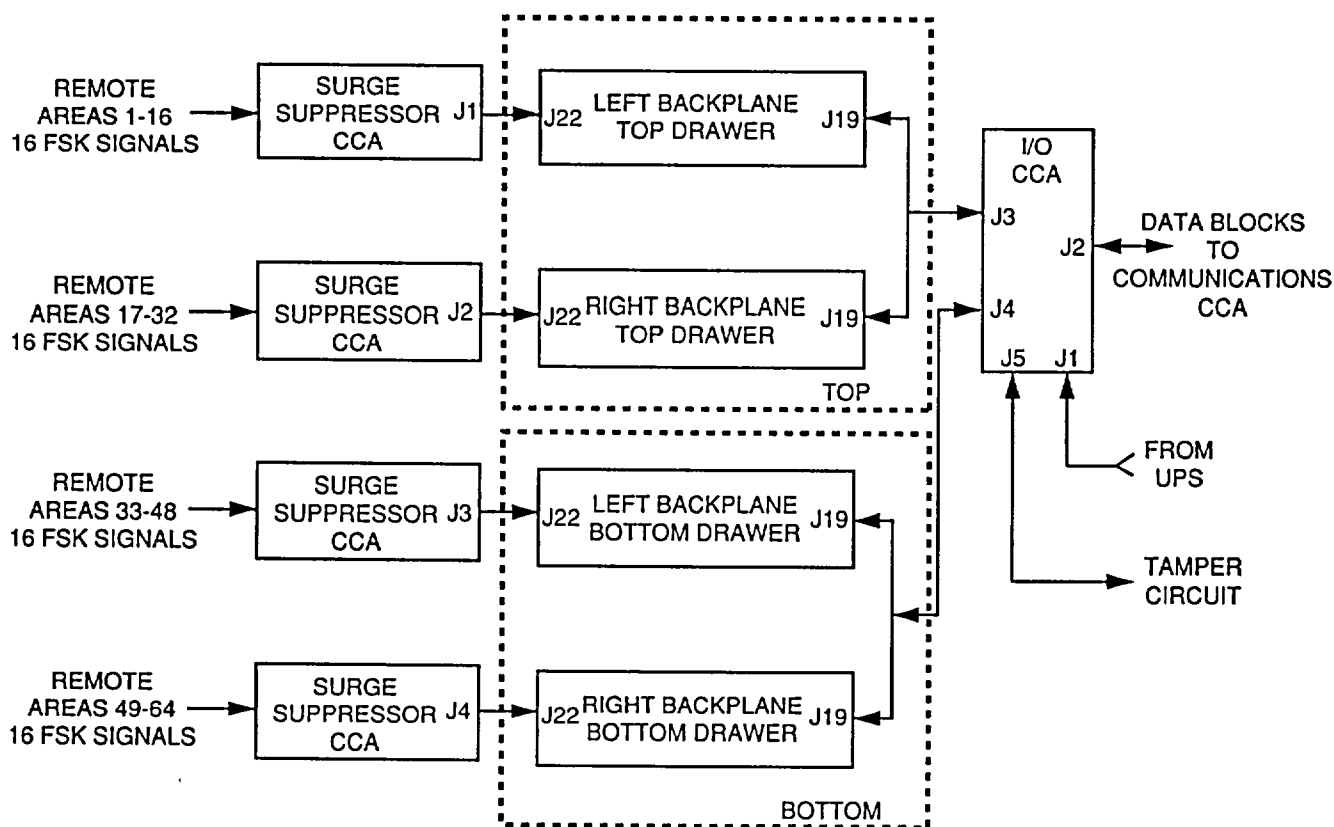

Figure 1-5. CMA Block Diagram.
**1.13.3 Converter Multiplexer Assembly (CMA) Functional Description.** The CMA (figure 1-5) receives the FSK signals from the J-SIIDS data transmitters located at up to 64 remote areas. It also receives the power status from the UPS. The FSK signals are processed by the CMA for transmission to the computer.